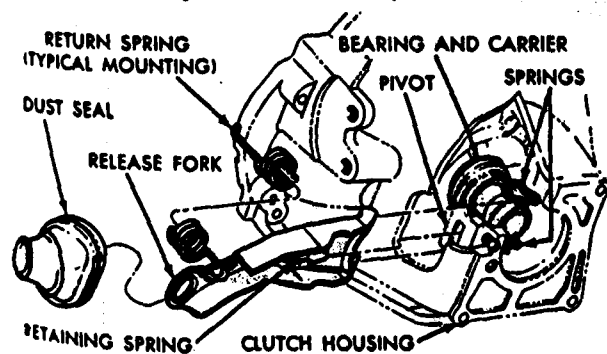

Fig. 3—Release Fork, Bearing, and Carrier
(4) Disconnect return spring from clutch release fork and clutch housing.
(5) Remove fork rod assembly spring washer from pin and remove rod with adjusting nut, washer, and insulator.
(6) Remove clutch release bearing and carrier assembly from clutch release fork then remove release fork and boot from clutch housing (Fig. 3).